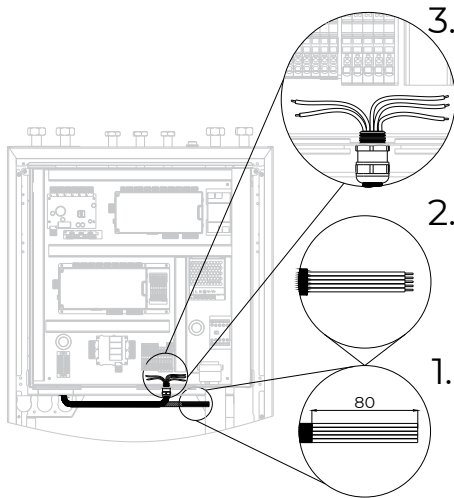

Figure 13: Wiring the power cable to the indoor unit's electrical box
3. Wire the power cable to the electrical box through the threaded gland and attach it, so as to unburden the power cable (Figure 13).